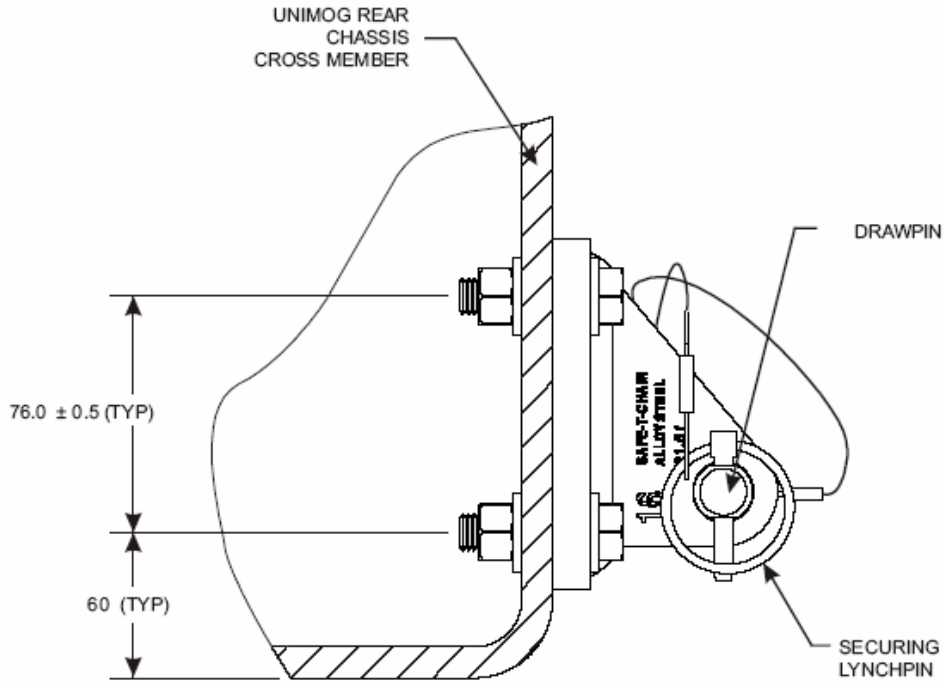

Figure 1 Vertical Position Of The Mounts
- a. Position the left hand mount as shown in Figures 1 and 2. Figure 3 shows the completed modification.